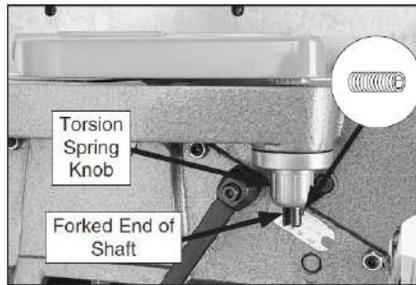

Fig 10A
Mount the cutter block guard (Fig. 10A)
2. Thread set screw through forked end of cutterhead guard shaft, as shown in Fig 10A. When properly installed, guard is positioned 3/8" above table for safety during operations.